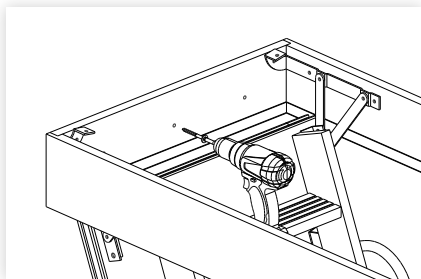

figure 9
5. From a step ladder or work platform (not the attic ladder), pre-drill three 6mm holes through the hinge end of the ladder frame and screw in the timbertight screws supplied making sure there is solid timber behind. Do not fit tight yet (figure 9).